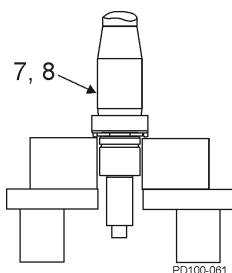

Figure 77 - Grease Shaft
1. Lubricate the front bearing area of the shaft (Figure 77, item 7, 8) with oil or grease. Place it upright in a hydraulic press with the liquid end down.